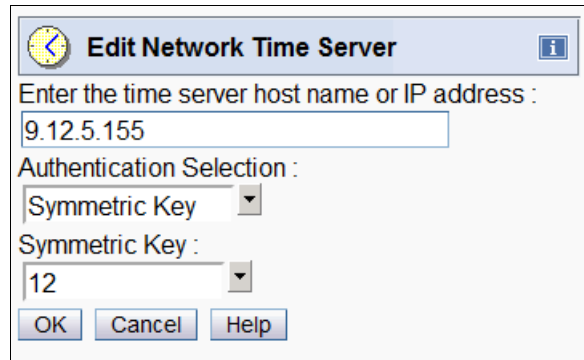

Figure 9-19 HMC: Customize Console Date and Time Adding NTP server with Authentication
10. On the Edit Network Time Server panel (Figure 9-19), select the appropriate key number in the **Symmetric Key** field. In this example, we select key **12**. Click **OK**.